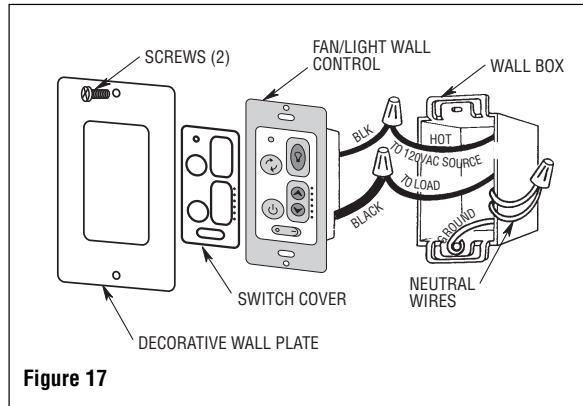

Figure 17
4. Connect one black wire of wall control to the “hot” wire. Securely connect wires with wire connectors supplied (Figure 17).
7. The wall control is supplied with a white, ivory, and almond color switch covers. Choose the finish that best suits your needs and snap the cover onto the wall control (Figure 17).